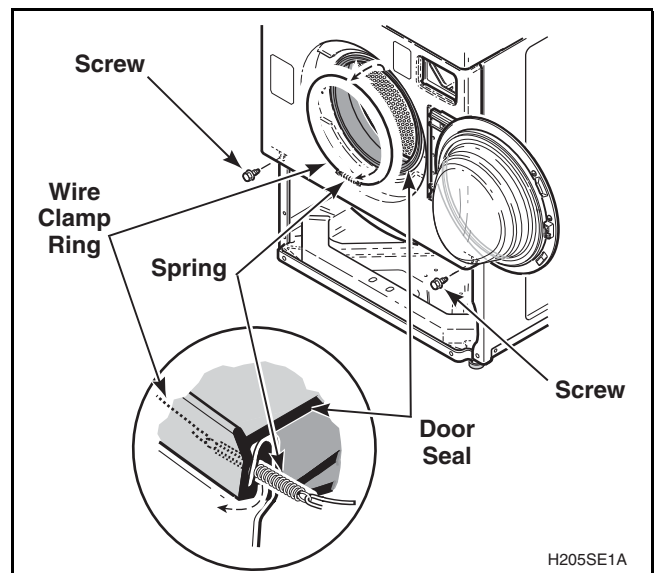
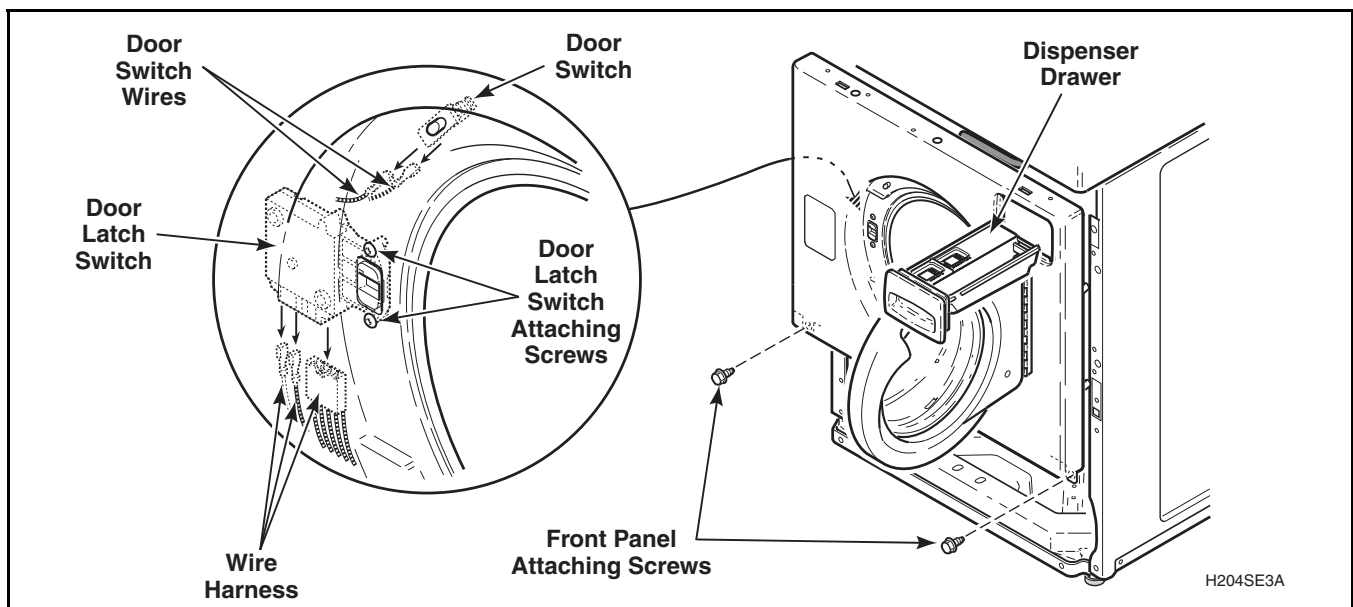

Figure 36
Figure 38
- (3) Open loading door. Carefully remove wire clamp ring from groove with small flat blade screwdriver. Spring is in 6 o'clock position. Refer to *Figure 36*.
- (4) Grasp loading door seal and slide seal away from front panel around the circumference of the door.
- (5) Remove bottom two front panel attaching screws. Refer to *Figure 38*.
- (6) Remove front panel (with loading door attached) away from washer as far as wires permit.
- (7) Unplug wire harness from both the door latch switch and from the door switch. Refer to *Figure 38*. Remove clips holding wire harness and door seal hose along top flange of front panel and remove front panel.